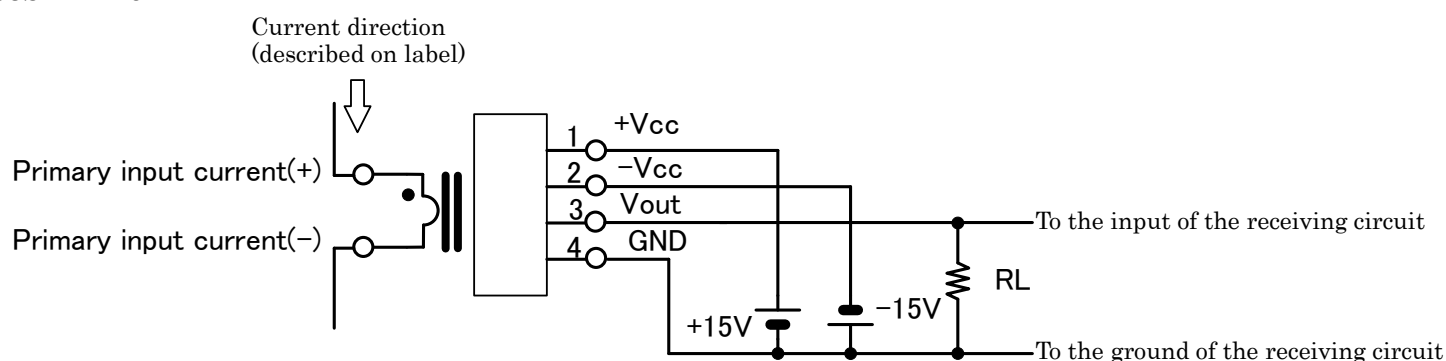

Fig. 3: L37S L03S Standard circuit
### □ Description of Fig. 3
This current sensor converts a measured current into a voltage. The output voltage  $V_{out}$  (3) in Fig. 3 is output on the basis of the GND potential. When the current to be measured is 0,  $V_{out}$  (3) = 0V. When the current to be measured is in the plus direction (direction  $\Rightarrow$  of the label),  $V_{out}$  (3) becomes 0V + (voltage
$R_L = 10 \text{ k}\Omega$  in Fig. 3 is the equivalent resistance of the receiving circuit of the current sensor output  $V_{out}$  (3). The load resistance between the  $V_{out}$  terminal (3) and the GND potential (4) is standard  $10 \text{ k}\Omega$ .